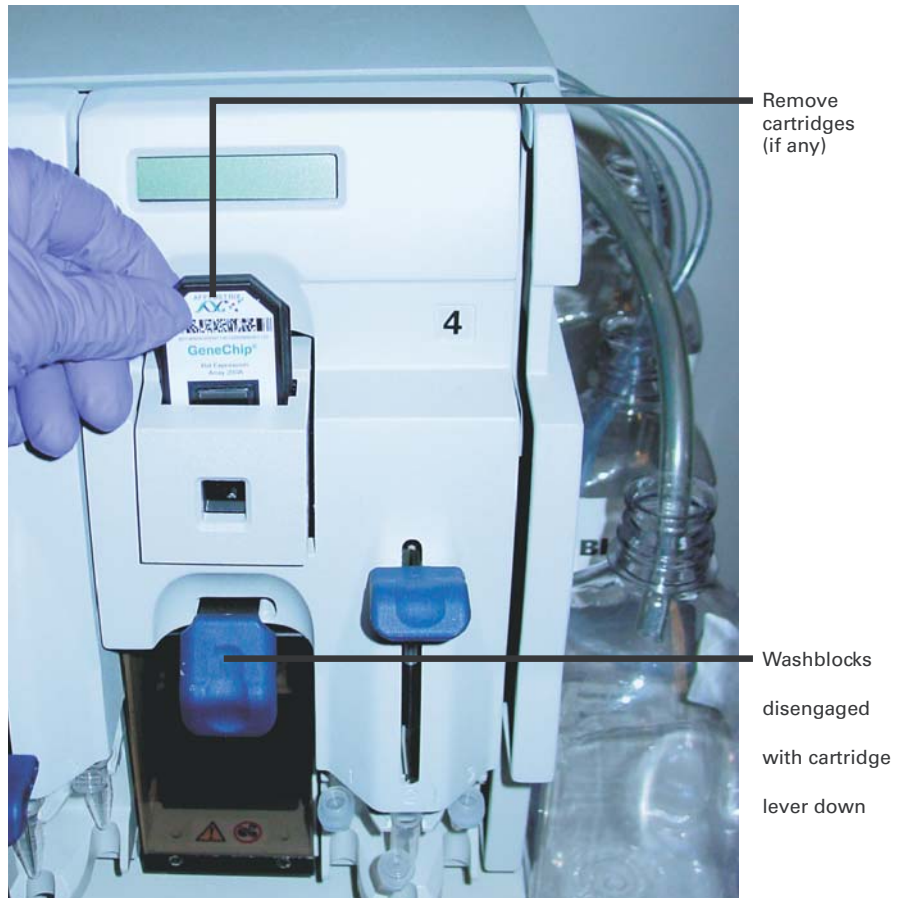

Figure 3.1
1. Disengage the washblock for each module by pressing down on the cartridge lever. Remove any probe array cartridge (Figure 3.1).